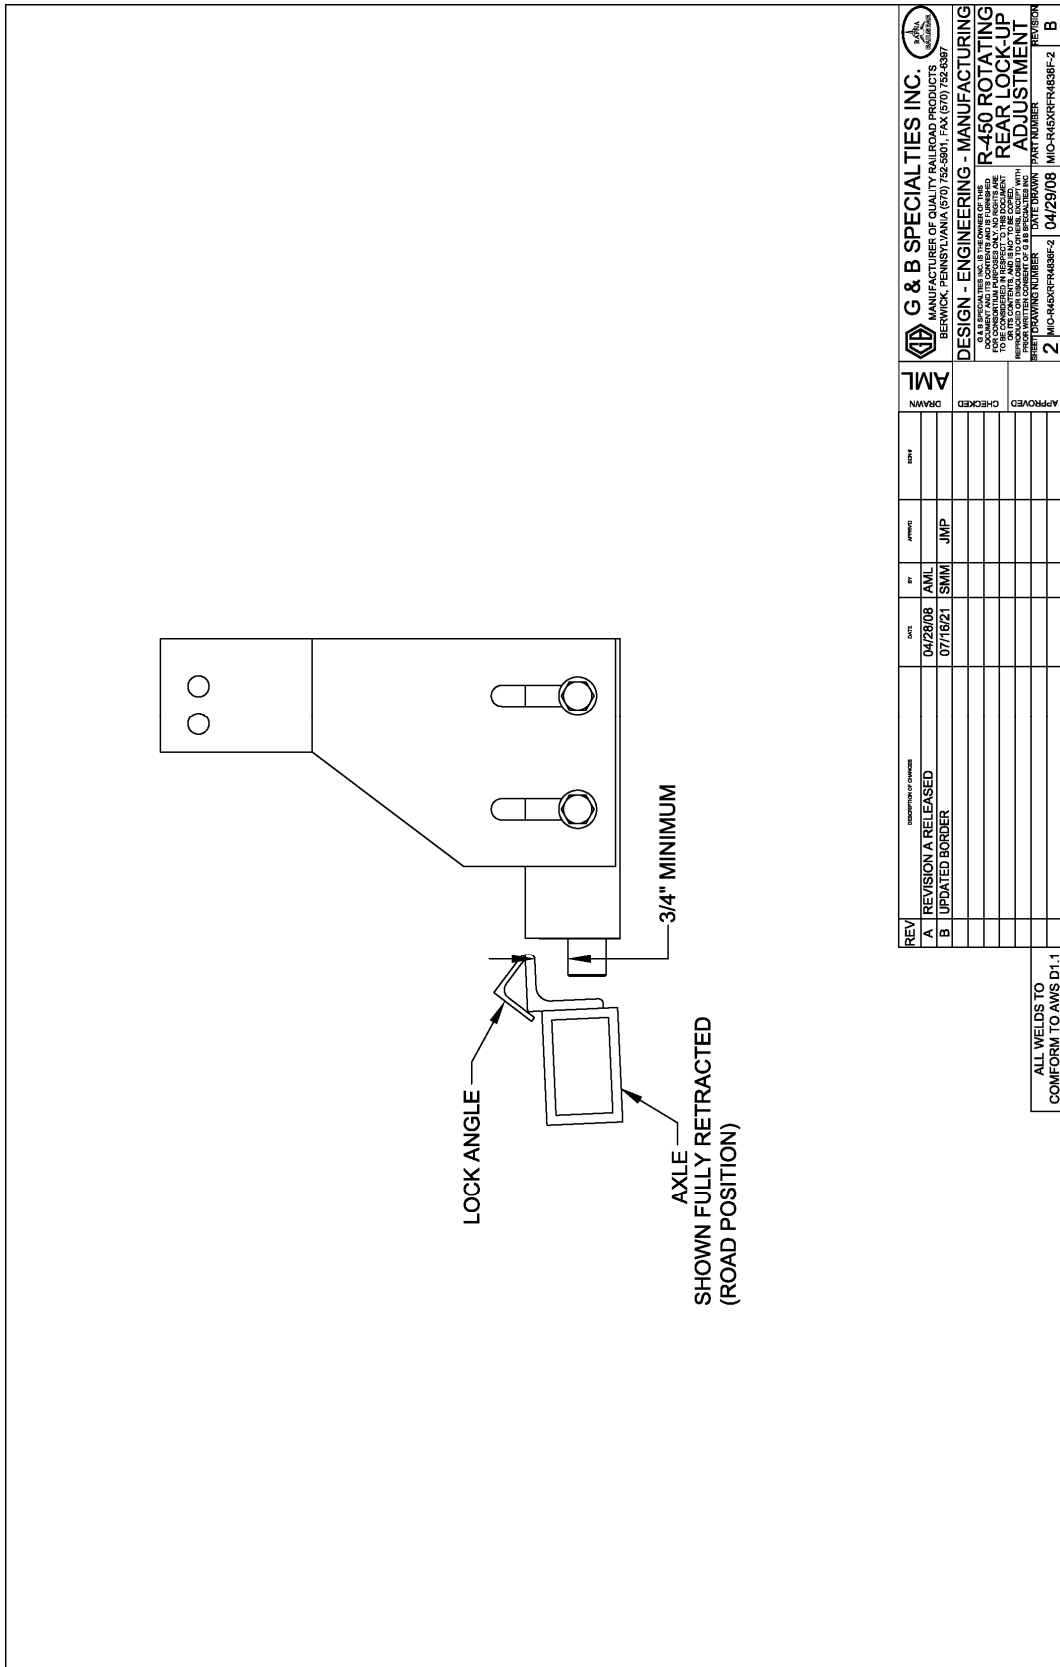

Figure 9
13. With the railgear fully retracted to the road position and the lock-up adjusted as outlined in the previous steps, there should be approximately 3/4" clearance between the angle plate and lock pins as shown in **Figure 9**.